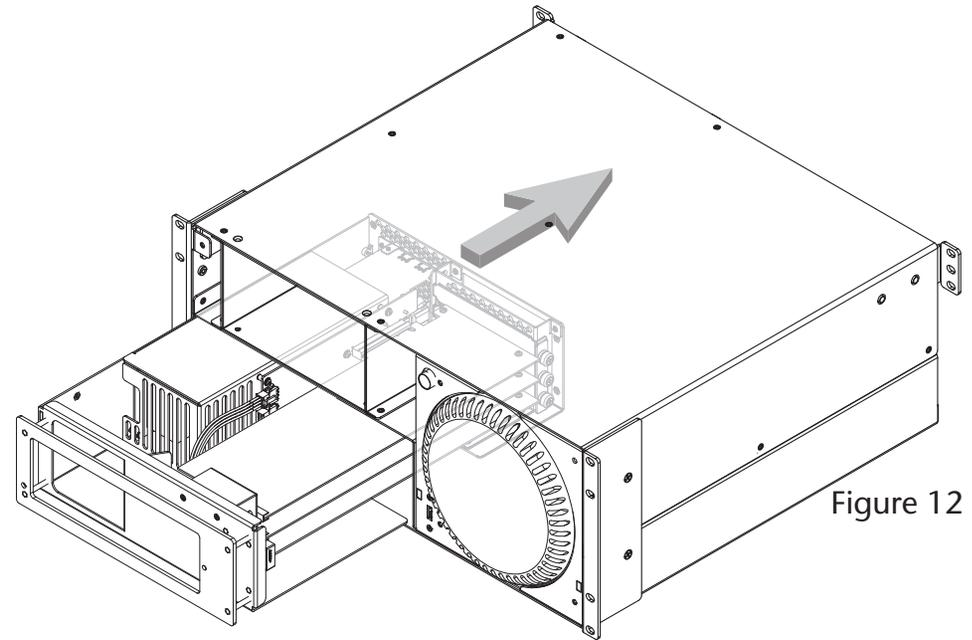

Figure 12
8. Carefully slide the PCIe card expansion module into the rackmount enclosure until it stops (Figure 12).